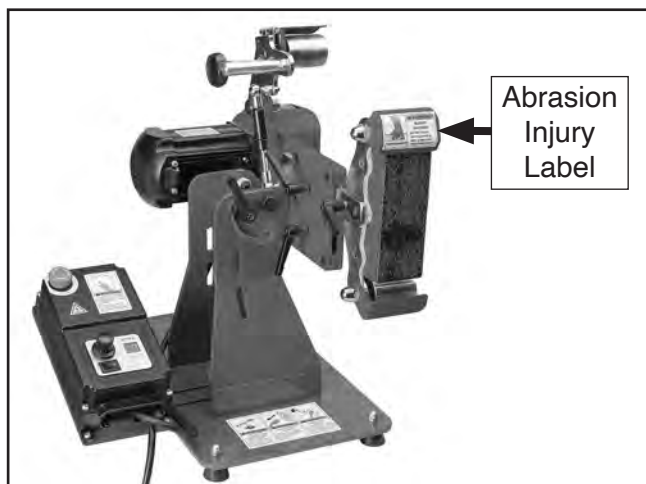

Figure 10. Platen assembly flipped and installed correctly.
6. Flip platen assembly so abrasion injury label faces up, then install assembly in machine frame (see **Figure 10**).